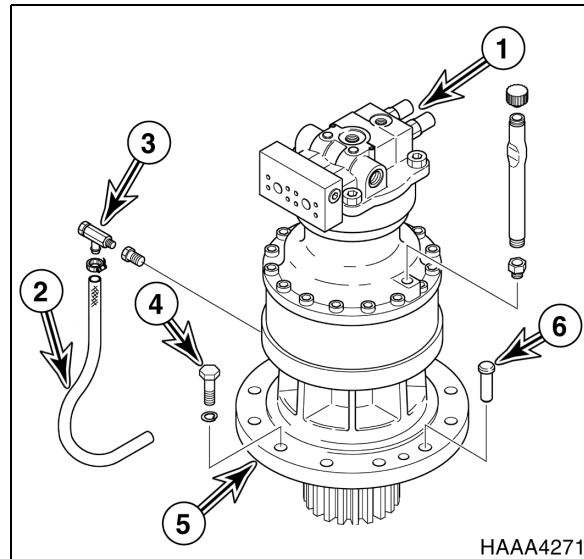

Figure 16
2. Make sure alignment pin (6, Figure 16) is installed in flange of swing reduction gearbox (5).
3. Using a suitable lifting device, sling swing motor (1, Figure 16) and position swing motor and reduction gearbox (5) as an assembly on unit.
4. Install eleven bolts and washers (4, Figure 16) to secure swing reduction gearbox (5) to frame.
5. Connect tube (2, Figure 16) to drain valve (3).
6. Connect grease lubrication line (not shown) from reduction gearbox (5, Figure 16).
7. Connect hoses as tagged during removal to swing motor (1, Figure 16).